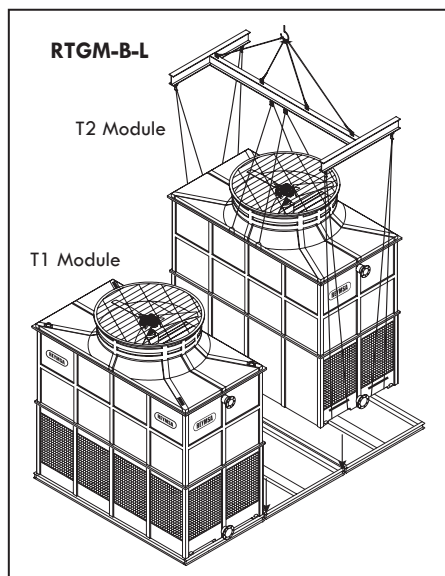
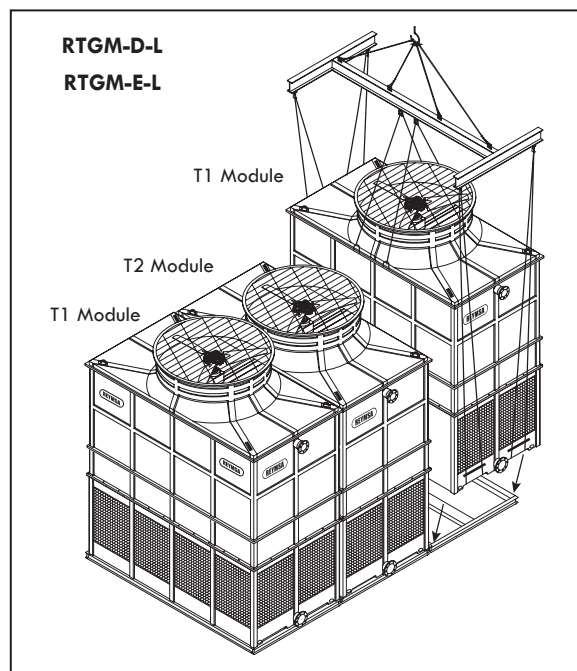

Figure A-85: T2 Module lifting and installation (RTGM-B-L)
Figure A-88: T1 Module lifting and installation (RTGM-D-L & RTGM-E-L)
B. Repeat the previous steps to install the remaining modules. Pay attention to the correct module arrangement; Each module is labeled alphabetically (module 1: A; module 2: B, etc.) for a proper installation see Figure A-85 to Figure A-88).